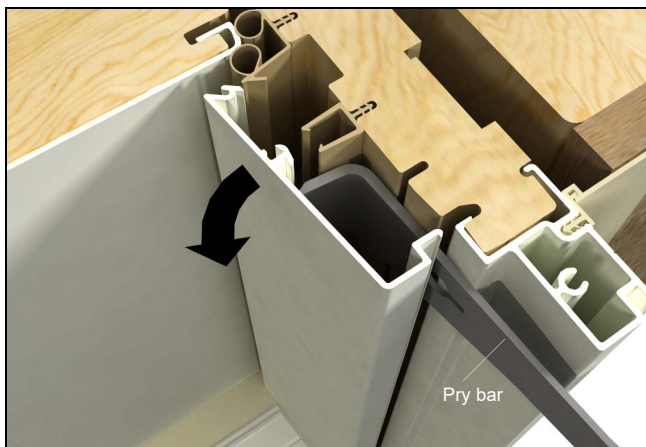

Figure 5
2. Once the outer edge of the stop is loose, insert a pry bar all the way under the stop and pry the stop from the weather strip. See figure 5.